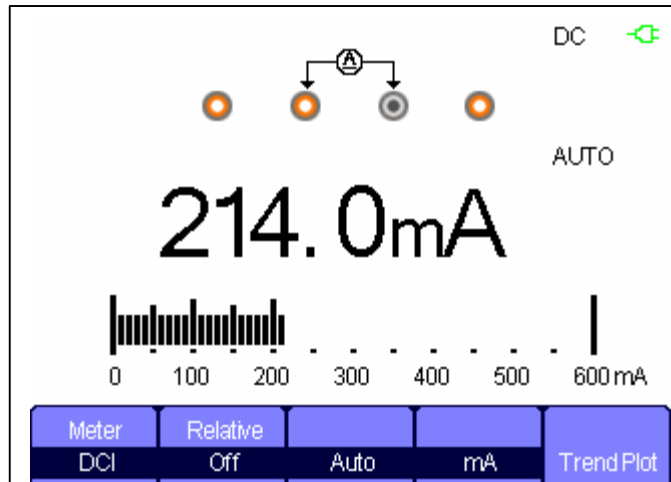
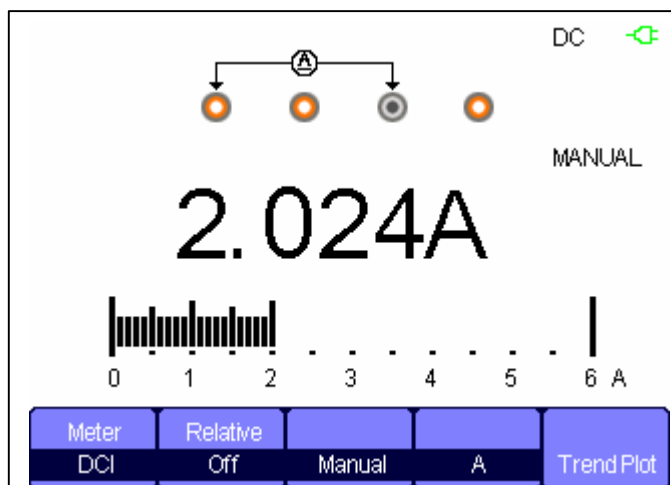

Figure 3-8 DC Current “mA” Measurement
Figure 3-9 DC Current “A” Measurement
2. Insert the black probe to the **COM** multimeter input. For currents < 600 mA, plug the red probe into the mA input (Figures 3-8, 3-10). For currents over 600 mA but under 10A, plug the probe into the A input (Figures 3-9, 3-11). The multimeter cannot handle currents over 10 A. These multimeter jacks are fused, and an overcurrent will blow the fuse.